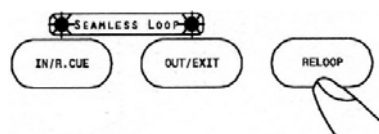

Fig. 12
- e. To replay loop, press the RELOOP Button. IN/ R.CUE and OUT/EXIT LED and LOOP INDICATOR in LCD DISPLAY will all begin flashing again (Fig 12)